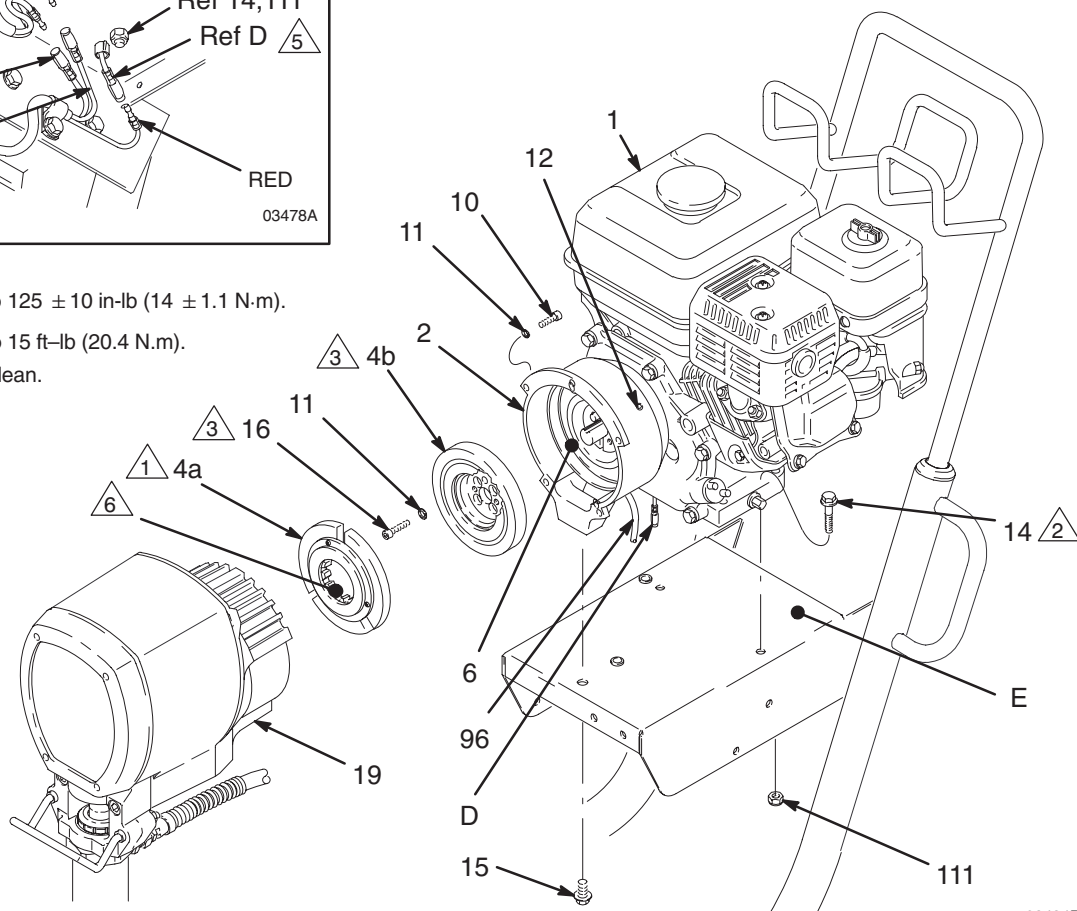

Fig. 20
5. Place the **engine (1)** assembly on the cart. Align the mounting holes. Carefully guide the engine wire (D) and wiring harness (96) from the field, through the appropriate grommets (66) in the mounting plate (E). Install the flange screws (14) and locknuts (111). Torque to 15 ft-lb (20.4 N·m). Install the capscrew (15), lockwasher (80) and washer (99) from under the engine mounting plate to the clutch housing (2). Connect the engine wire (D) to the red wire, and connect the black and white wires as shown in the Detail drawing in Fig. 20.
6. Be sure the face of the **rotor (4b)** and the field are free of all oil and contaminants. Remove any burrs on the outside edge of the rotor. Install the rotor, lockwashers (11) and capscrews (16). Torque the capscrews to 125 ± 10 in-lb (14 ± 1.1 N·m). See Fig. 20.
7. Be sure the face of the **armature (4a)** is clean. Assemble the armature to the shaft in the pinion housing (19). A retaining ring located within the armature makes it difficult to assemble these parts. Follow this procedure for the best results. First, lock a few splines of both parts. While they are locked, use a screwdriver to gently push the retaining ring into the armature, and finish engaging the splines. Push the armature onto the shaft until it contacts the ring (19m). See Fig. 20.
8. Assemble the **pinion housing (19)** to the clutch housing, using the capscrews (10) and lockwashers (11). See Fig. 20.